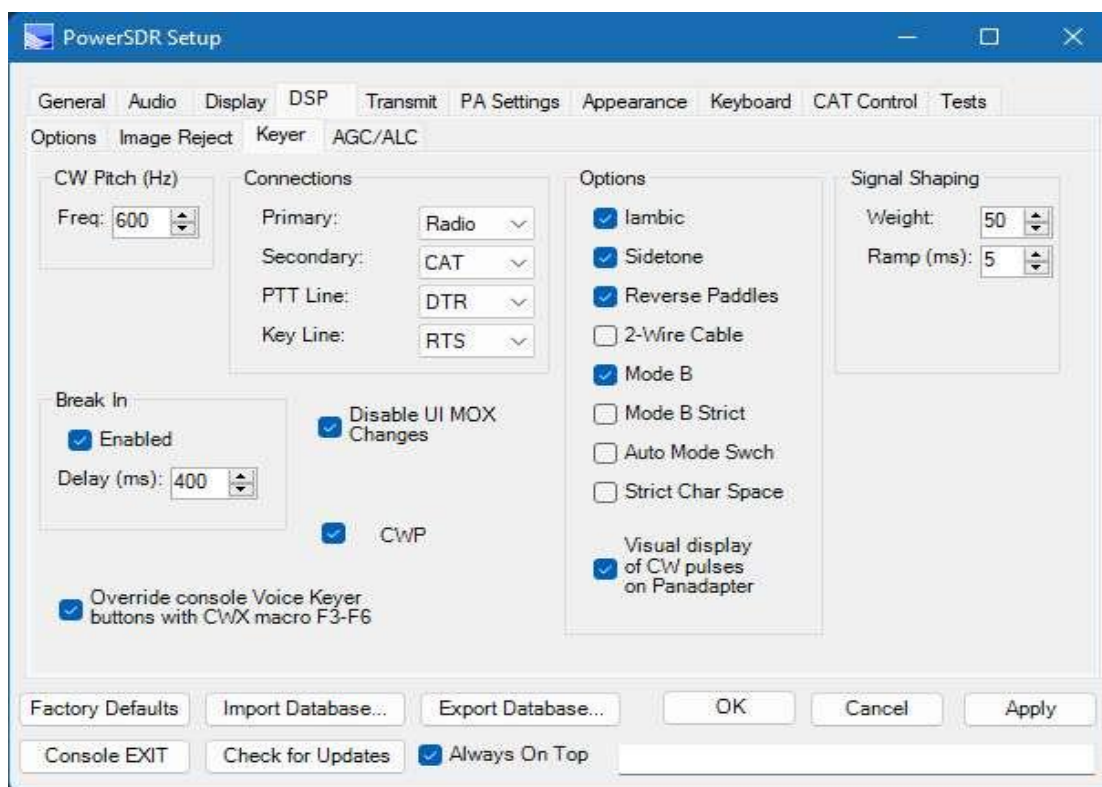

Figure 42: Setup-> DSP-> Keyer
2. Next, in PowerSDR open the **Setup-> DSP-> Keyer** shown in Figure 42 below to access the Internal Keyer controls.